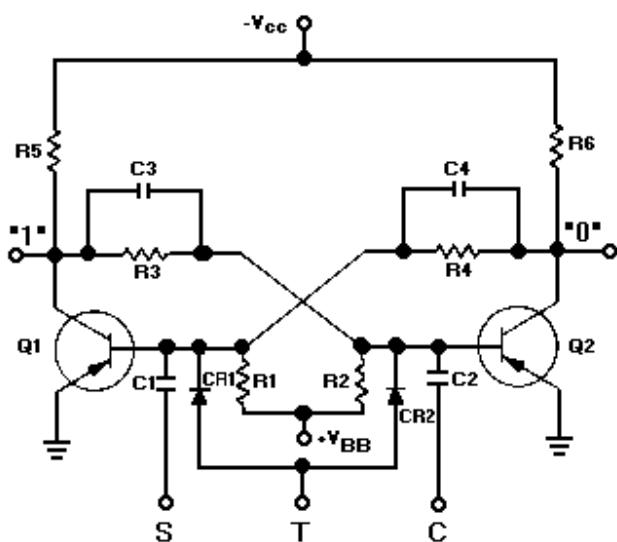
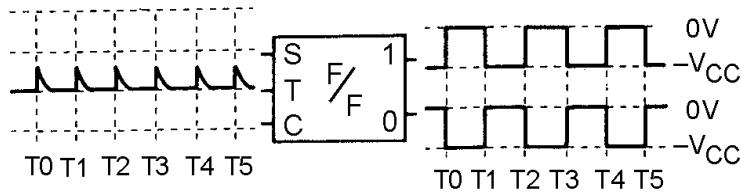
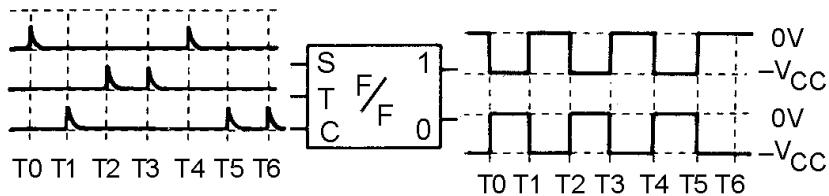

Figure 3-28.—Flip-flop with three inputs.
Figure 3-29.—Block diagram of a flip-flop with a toggle input.
Figure 3-30.—Flip-flop with three inputs (block diagram).
Some flip-flops use a third input lead, as shown in figure 3-28. This third input lead is called a TOGGLE (T) input. Every time a pulse is applied to the T input, the flip-flop will change states from whatever its state was previously. The two diodes (CR1, CR2) form a STEERING NETWORK. This steering network directs a positive input pulse to the saturated transistor, causing it to cut off. Negative pulses are blocked by the diodes. Note that if npn transistors were used, the diodes would have to be reversed and the TOGGLE signal would have to be negative. For example, assume that Q1 is saturated, Q2 is cut off, and a positive pulse is applied to the T input. The input pulse will be directed to both transistors. The positive pulse will not affect Q2 since it is already in cutoff. Q1 however, which is conducting, will cut off and will cause Q2 to become saturated. The transistors have reversed states. A block diagram which represents a multivibrator and its outputs with only a TOGGLE input signal is shown in figure 3-29. Studying this figure should help you understand how this flip-flop works. Each TOGGLE input causes the output to change states. Figure 3-30 shows what happens when triggers are applied to all three inputs of the flip-flop shown in figure 3-28. Assume that the flip-flop in figure 3-30 is in the CLEAR state ("1" output is 0 volts, "0" output is high) prior to T0. At T0 a trigger is applied to the set input and the flip-flop changes states. Next, the CLEAR input is triggered and the flip-flop returns to the CLEAR state at T1. A TOGGLE at T2 causes the flip-flop to change state, so it is once again SET. Another TOGGLE changes the flip-flop to the CLEAR state at T3 (notice that TOGGLE triggers flip the multivibrator regardless of its previous state). Now, a SET input trigger at T4 sets the flip-flop. The CLEAR input pulse at T5 causes the circuit to CLEAR, and the CLEAR input at T6 has no effect on the flip-flop, for it is already in the CLEAR state.